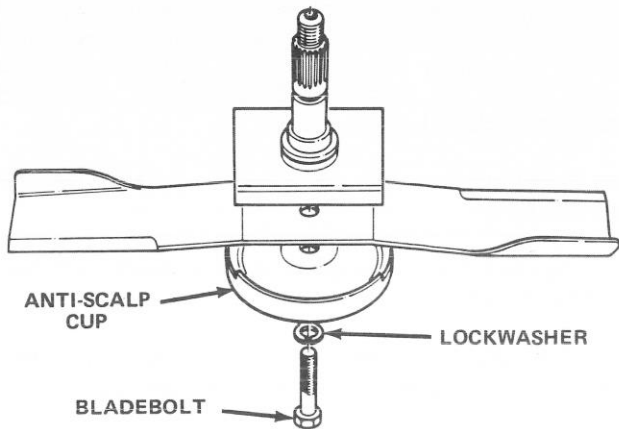

Figure 27
2. Grasp end of blade using a rag or thickly padded glove. Remove bladebolt, lockwasher, anti-scalp cup and blade from spindle shaft (Fig. 27).